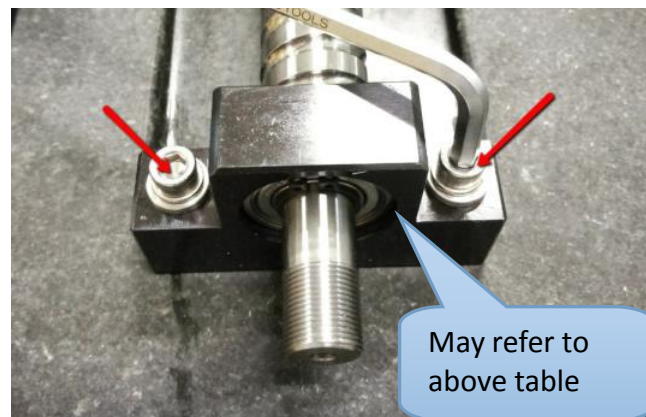

Figure 15 (Rear)Support Unit
18. Loosen and remove the screws (M6 x 2) at Support Unit_Simple Support Unit (May refer to below table) as below Figure 15.